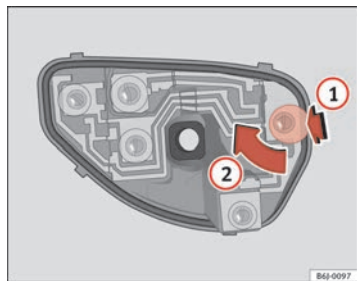

Fig. 148 Changing bulbs on tail lights
- When the bulb holder has been removed, press in the direction of the arrow (1) and at the same time, turn in the direction of the arrow (2) ⇒ fig. 148. ■